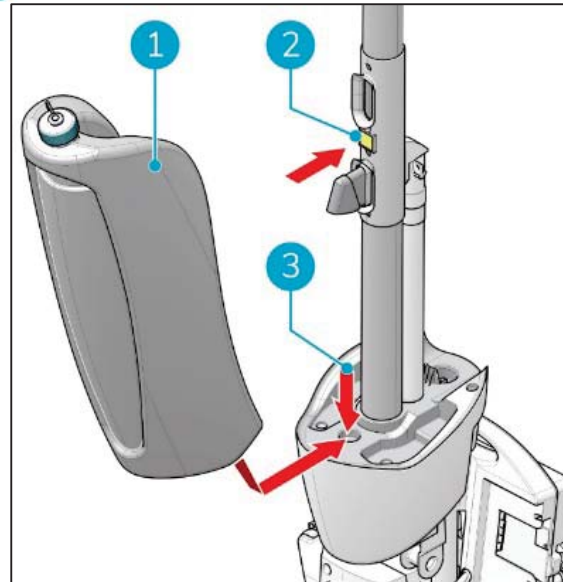

Figure 34
14. Put the bottom of the recovery tank (Figure 34, pos 1 and pos 3) on the front of the i-mop® XL Plus.
15. Push the top of the tank into place until you hear a "click" sound, the magnet (Figure 34, pos 2) will lock the recovery tank into place.